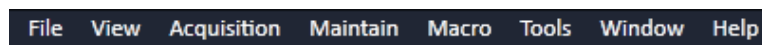

Fig. 1 Menu bar
- In the **Menu** bar (see Fig. 1), click on **Macro**.